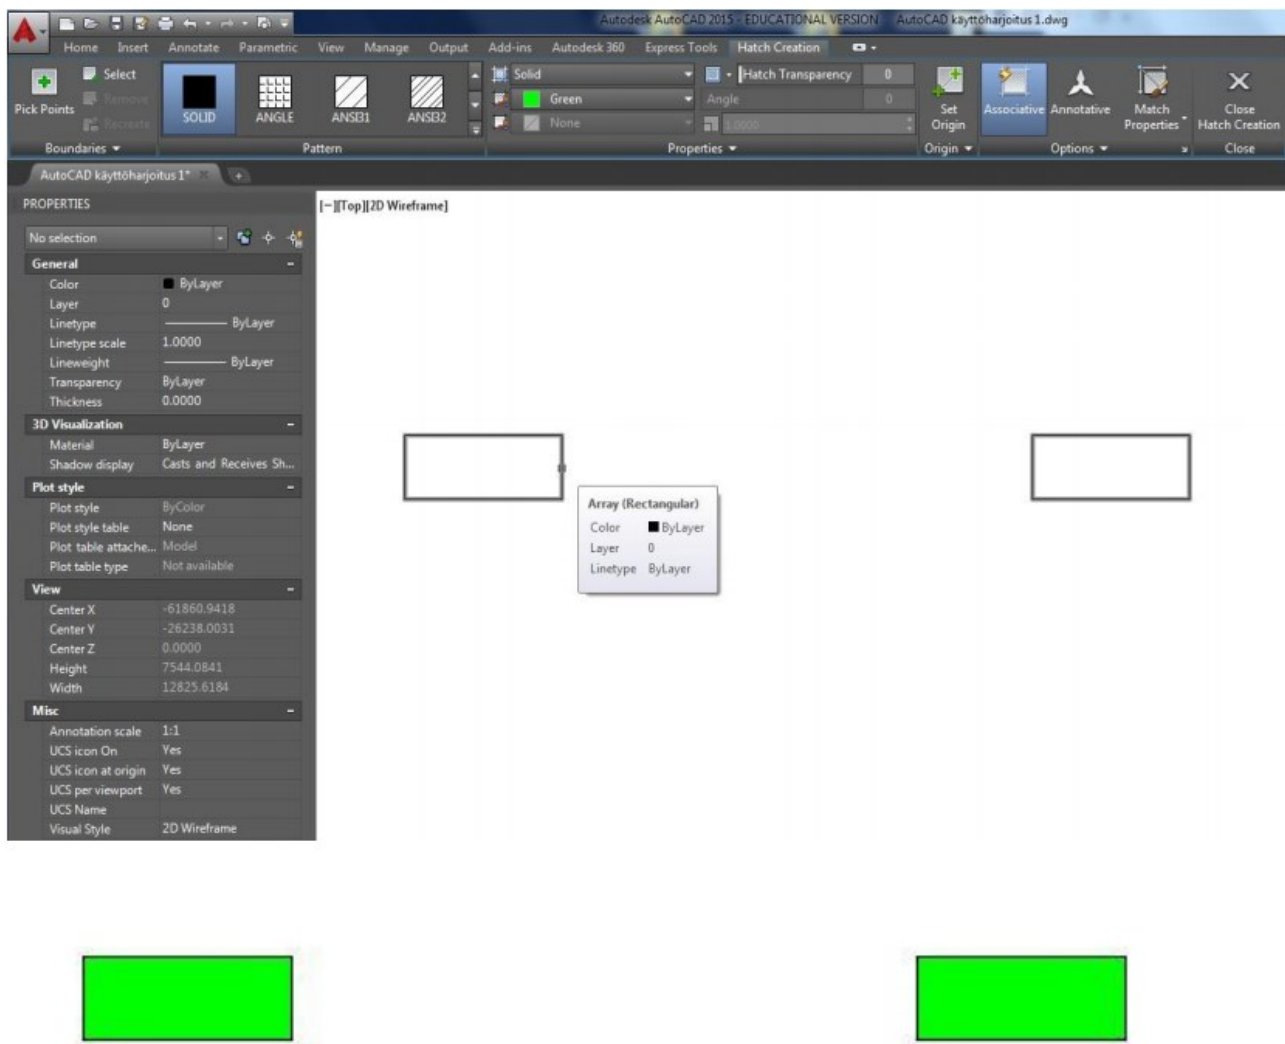

Figure 4. Using hatch and final result
Next, fill the rectangles with the **HATCH (H)** command. Begin with the command, and immediately after, adjust the color and fill type (solid) from the ribbon menu (Figure 4). Next, select the area to be filled by clicking. Array duplication is a single object, so you can fill both rectangles at same time with the *Select objects* option. Alternatively, you can fill rectangles one by one by selecting *Internal Points*.